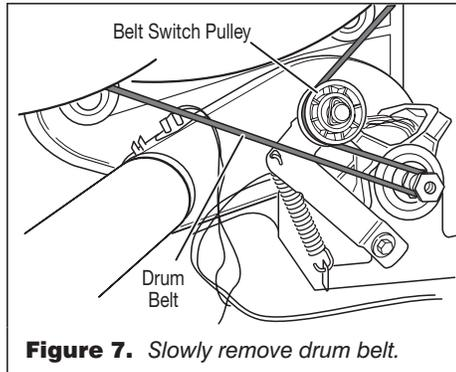

Figure 7. Slowly remove drum belt.
4. Check the belt switch and drive motor. Access the belt switch and drive motor by removing the back panel screws (to loosen front panel/drum assembly). See Removing the Back Panel Screws, page 12. Slowly remove the drum belt from the spring-loaded belt switch pulley, gently letting the belt switch pulley down. See figure 7.